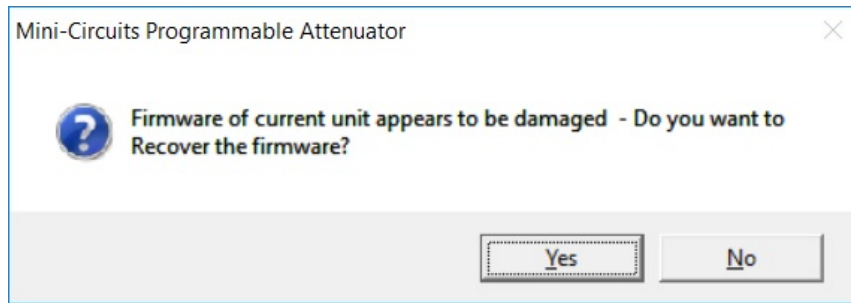

Figure 3.7.9 Firmware – recovery option
3.7.9 When you attempt to connect a unit with damaged firmware that supports the recovery option an alert (See **Fig 3.7.9**) will appear. Click 'Yes' to restart the firmware upgrade and repeat the attempt to install the firmware, or 'No' to cancel.